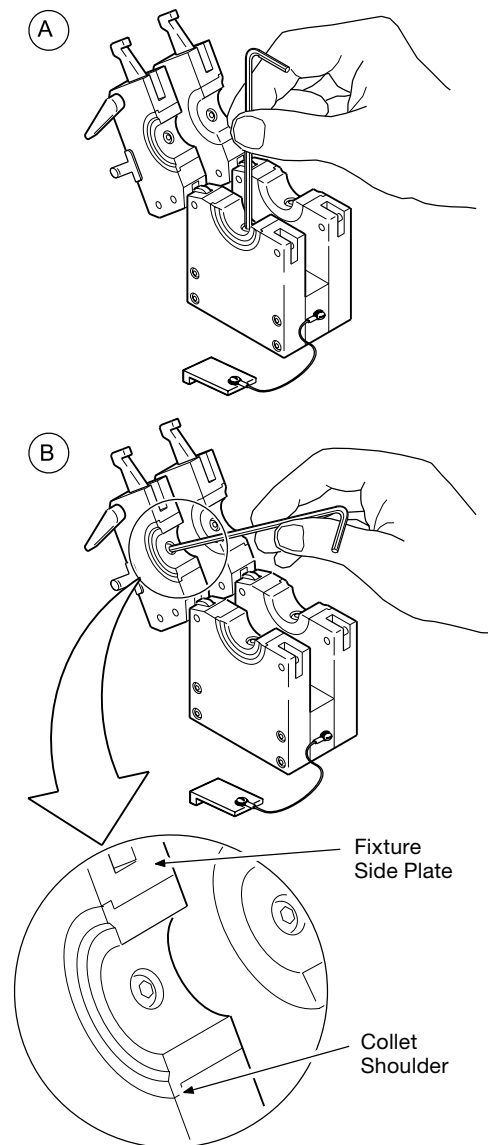

Figure 13 Installing Collets
2. Install the collet halves in both the top and bottom side plates and tighten the collet screws. Make sure the collet shoulder is flush against the fixture side plate. See Figure 13(B).